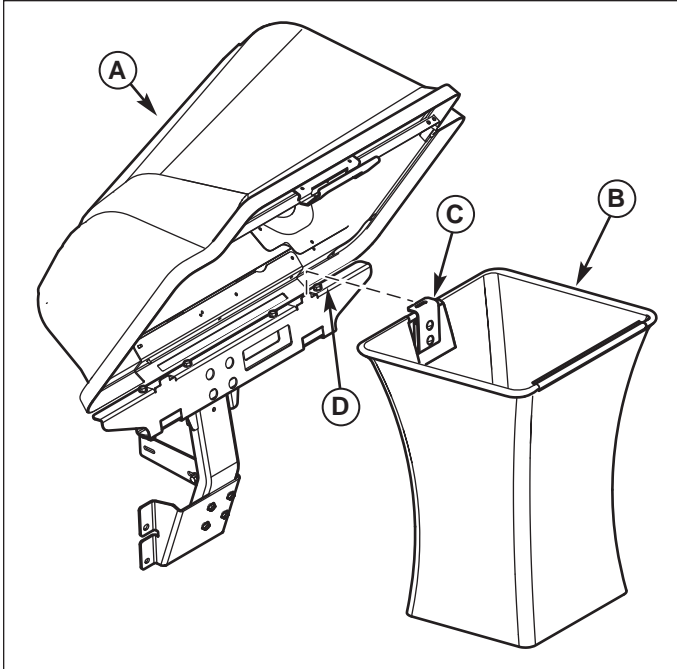

Figure 7. Install Collector Bags
1. Raise the cover (A, Figure 7).
2. Attach collector bags (B) using grass bag hanger (C) to bag hanger post (D).
1. Attach bag and cover support assembly (B) to hitch support assembly (A) by sliding the support mount (X) over the upright support until the support mount (X) makes full contact with the shoulder bolts (C).
2. Insert mount pin (D) through the support mount (X) and upright support (A) as shown.
3. Secure mount pin (D) with retainer spring (E).
4. Attach cover assembly (I) to bag support bracket (B) using cover hinge pivots (H). Secure cover assembly to bag support bracket using hinge pins (F) and retainer springs (E).
5. Raise the cover (I), attach collector bags (J) using grass bag hanger (K) to bag hanger post (D, Figure 7).
6. Lift discharge deflector (V) up and insert lower chute rod (S) into mounting plate (T).
7. Pull rubber strap (U) below discharge deflector (U) and secure lower chute (R) to mower deck by placing hole in rubber strap (U) (hole closest to lower chute) over locknut mount (W).
8. Slide upper tube (M) into cover (I) aligning ridge (N) with ridge cutout (L).
9. Slide tube assembly (O) over lower chute (R) securing tube assembly (O) to lower chute (R) using rubber strap (P) on tube assembly (O) to pin (Q) on lower chute (R).